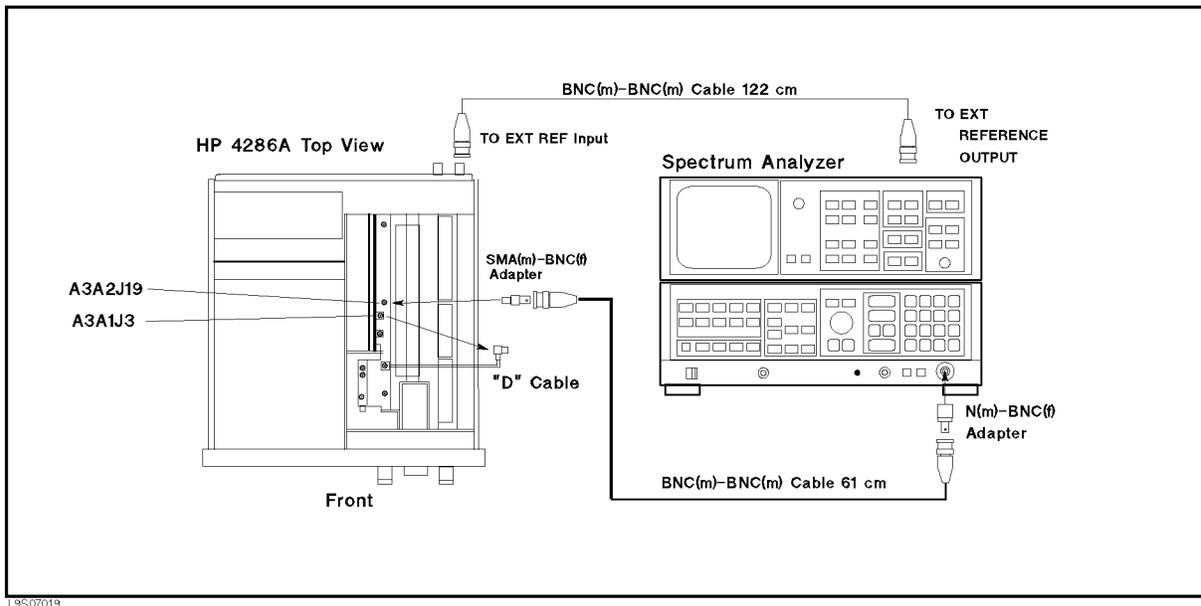

Figure 7-15. 2nd LO OSC Test Setup
- a. Remove the "I" semi-rigid cable from A3A2J19 and remove the "D" cable from A3A1J3. See Figure 7-15 for the locations of A3A2J19 and A3A1J3. Then connect the equipment as shown in Figure 7-15.